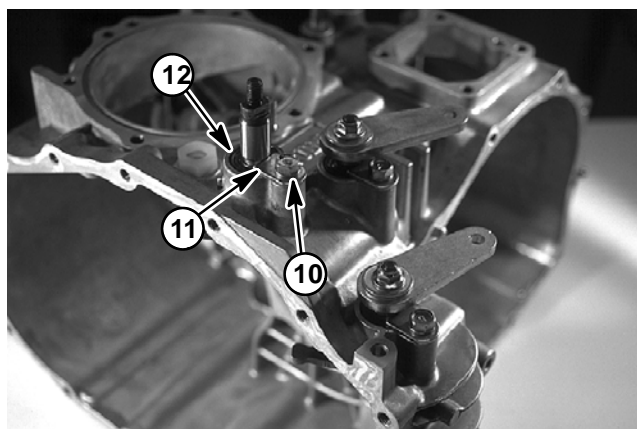

Figure 38
A. Loosen and remove nut (item 1). Remove 2nd-3rd shift arm (item 2) together with shift arm plate (item 3), spring (item 4), locknut (item 5), washer (item 6) and cap screw (item 7).
B. Loosen and remove locknut (item 8) from both 1st-Rev. shift arm (item 9) and High-Low shift arm (not shown). Remove shift arms.
C. Loosen cap screws (Fig. 38, item 10) and remove keeper plates (item 11).
D. Remove oil seals (item 12).